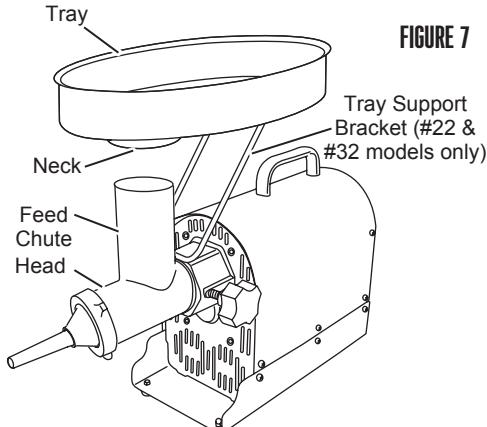

FIGURE 7
7. Insert the neck of the Tray into the Feed Chute (**FIGURE 7**). Plug into electrical outlet.
8. NEVER operate Grinder without the Tray secured in place (**FIGURE 7**).